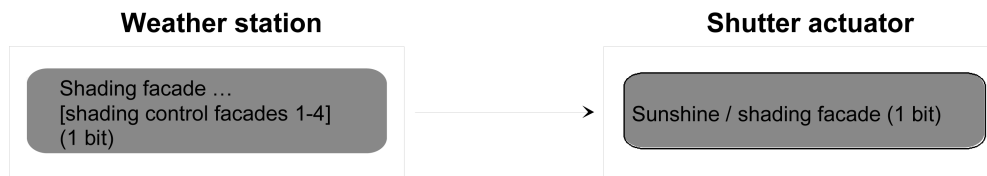

Figure 23: Programming of the communication objects for application example II
- fixed positions setting.(figure 23)